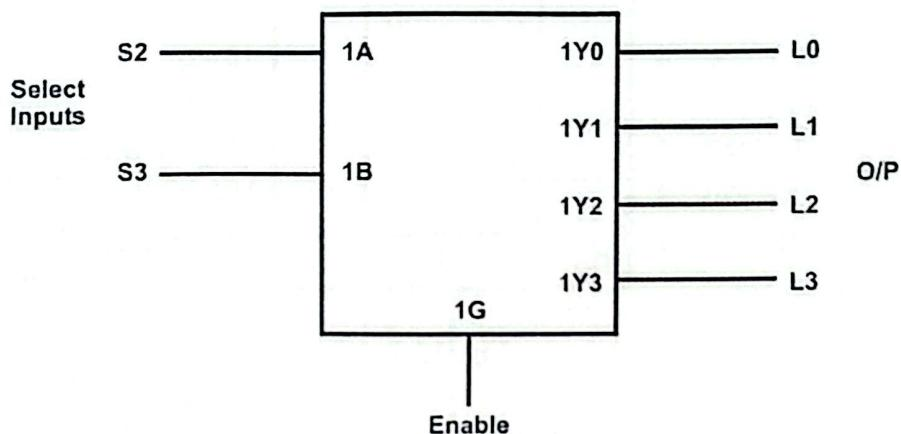

Fig. 14.1
4. IC 74LS139 is a dual 2 to 4 line decoders / demultiplexers. Wire one of such decoder according to the diagram in fig. 14.1 by consulting data sheet of the IC.